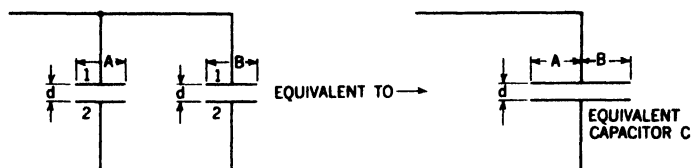

Fig. 33-9. Diagram showing the effect of two capacitors in parallel.
**Capacitors in Parallel.** Connecting several similar capacitors in parallel is the equivalent of having one capacitor whose plate area is equal to the total plate area and whose dielectric thickness is the equivalent of that of one of them. You may see why this is so from Figure 33-9. The area of plate No. 1 of capacitor A is added to the area of plate No. 1 of capacitor B. Similarly, the area of plate No. 2 of capacitor A is added to the area of plate No. 2 of capacitor B. The dielectric thickness has remained the same. Since the plate areas of capacitors A and B have been added and the dielectric thickness has remained the same, the capacitance